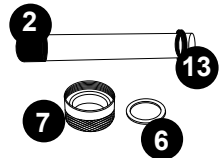

Figure 6
6. Remove the quartz seal compression nut (7) by turning it **counterclockwise**, Figure 3. Use a pair of channel-lock pliers if needed, Figure 5. You will notice that there is a stainless steel compression washer (6) that slides over the quartz tube. Save the washer (6) for later use, Figure 6. There is also a black seal ring (13), grasp the black seal ring, slowly and carefully remove the quartz tube.
7. Now you are ready to clean or replace the quartz tube (2). For the cleaning of the quartz tube (2), follow steps 8 and 9 then proceed to step 10. For replacing of the quartz tube (2), skip steps 8 and 9 and proceed to step 10.